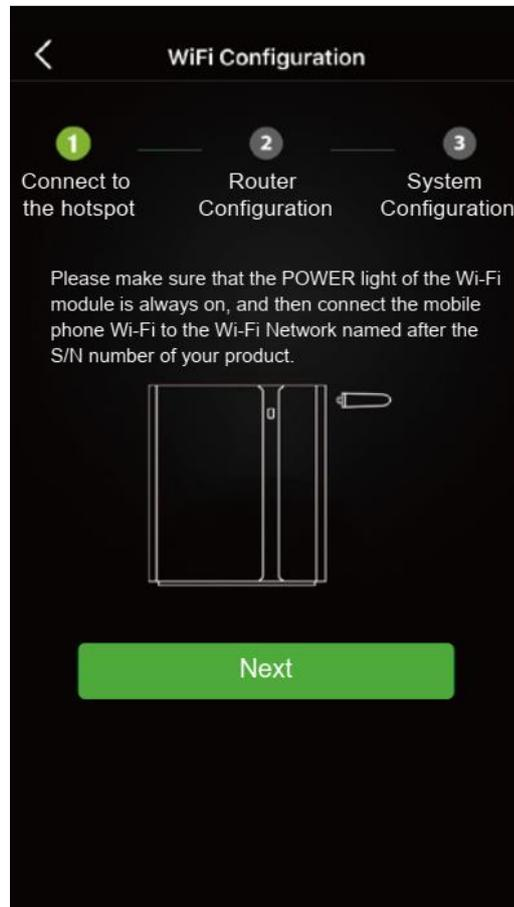

Figure 4-3 Hardware Connection
Step 2: Then check whether your phone has connected to the system hotspot, as shown in Figure 4-3.